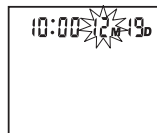

Fig. 1
1. When the unit is off, press and release both the **⏻POWER** and **M** (MEMORY) button at the same time. The month will begin to flash, *Fig. 1*.